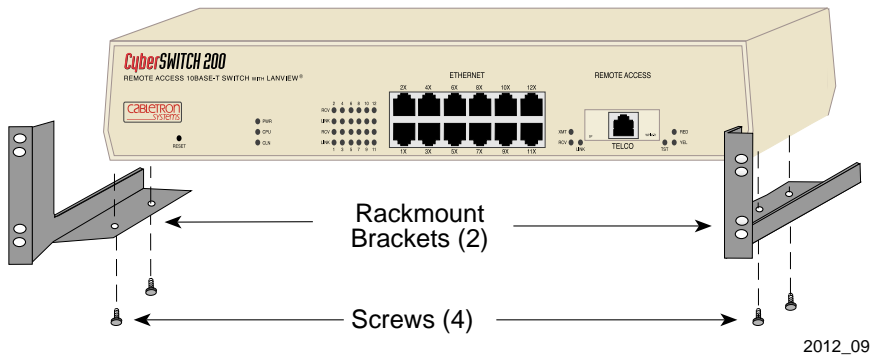

Figure 10 Installing the Rackmount Brackets
Refer to **Figure 10** and proceed as follows to attach the rackmount brackets:
2. Using the four 8-32 x 1/4-inch screws, attach the rackmount brackets to the bottom of the CSX200 as shown in **Figure 10**.